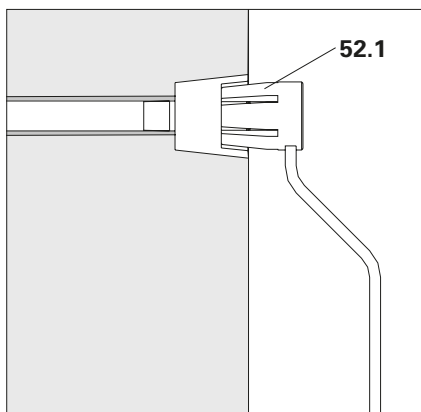
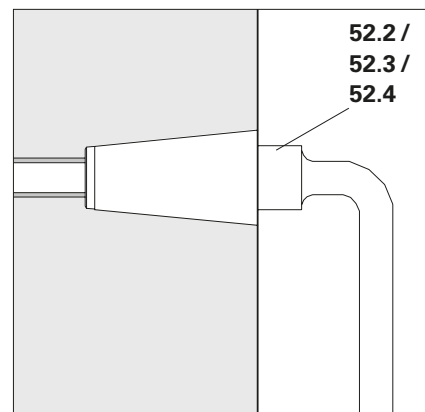

Fig. A1.03
Fig. A1.04
3. Unscrew cone (**51**) with the appropriate tool (**52**), see (Tab. A1.01). (Fig. A1.03 + Fig. A1.04)